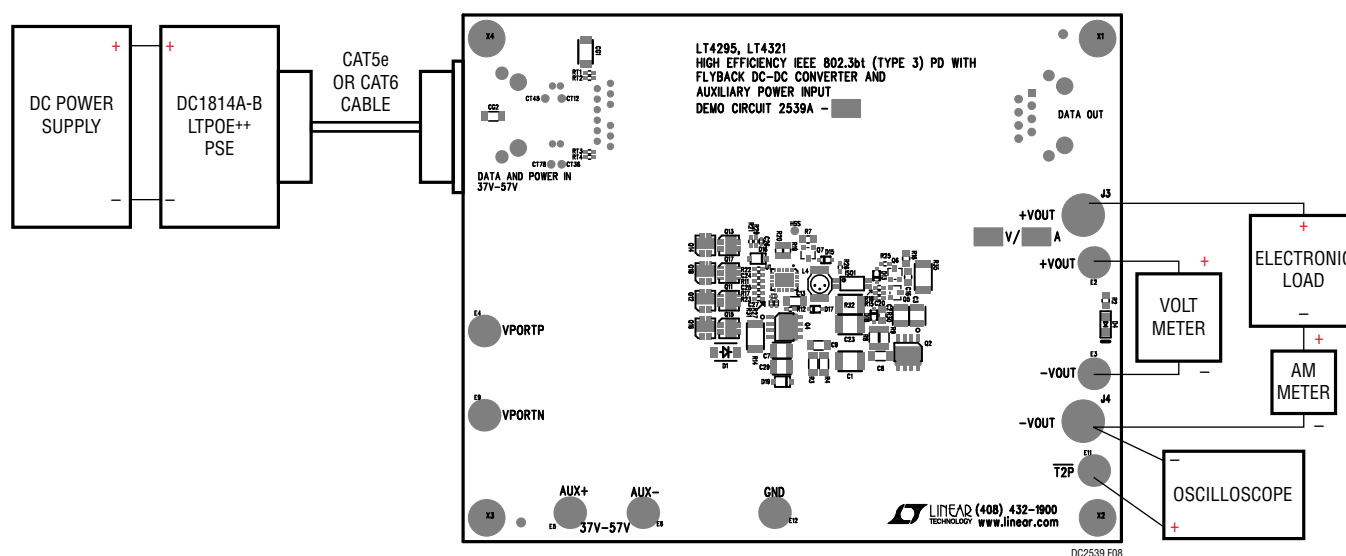

Figure 8. Setup Diagram for PoE Input
- 2 Place and connect test equipment (voltmeter, ammeter, oscilloscope, and electronic load) as shown in Figure 8.
- 8 Verify $\overline{T2P}$ response with an oscilloscope as shown in Figure 8. The $\overline{T2P}$ response to the type of PSE connected to the DC2539A-A is provided in Table 1.